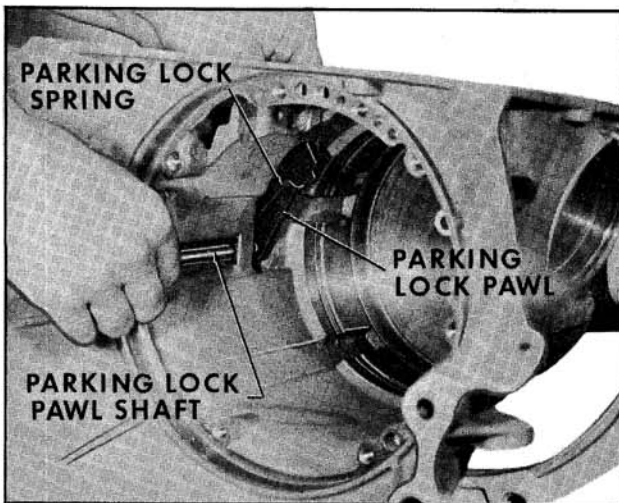

Fig. 6-480 Installing Parking Lock
1. Retain parking lock pawl and spring in case with parking lock pawl shaft. (Fig. 6-480)